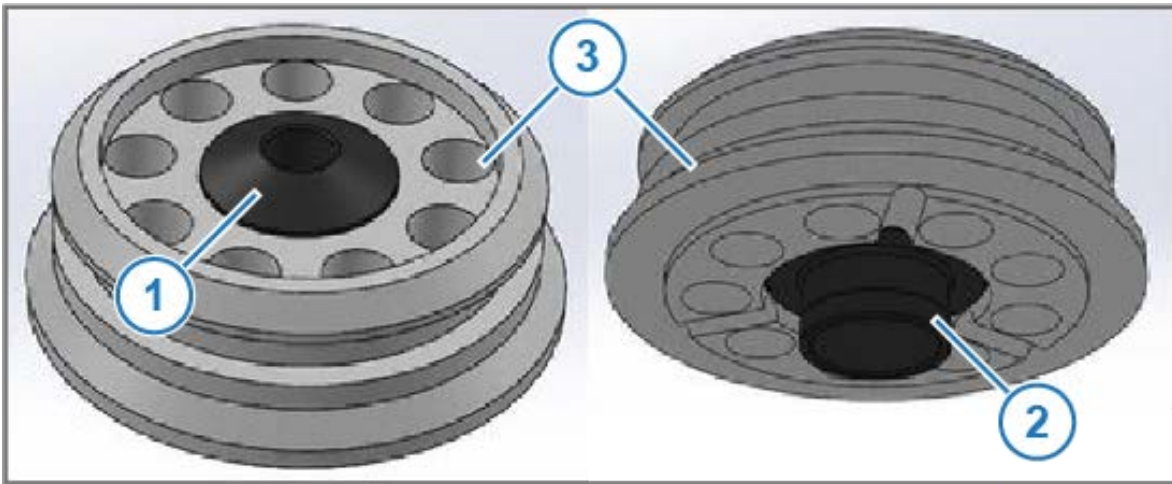
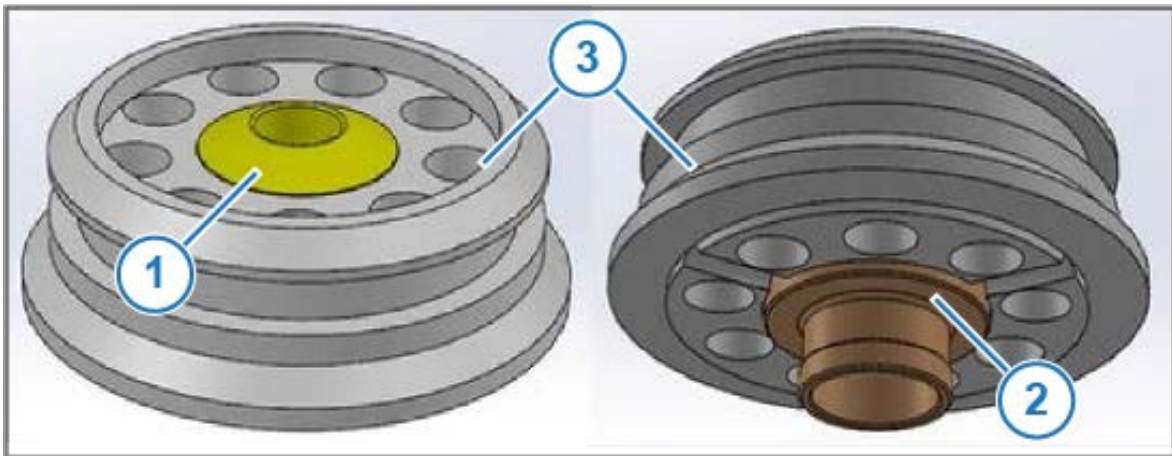

Figure 7: Black Coated Mound and Tail
Figure 8: Stainless Steel Mound and Tail
The Spitfire valve uses a removable orifice assembly in place of the solid valve body of the legacy design valve. The different style of orifice inserts can be identified by the finishes of their mounds (1) and tails (2) which protrude from the orifice body (3). These may either be black coated (Figure 7) or bare stainless steel (Figure 8).